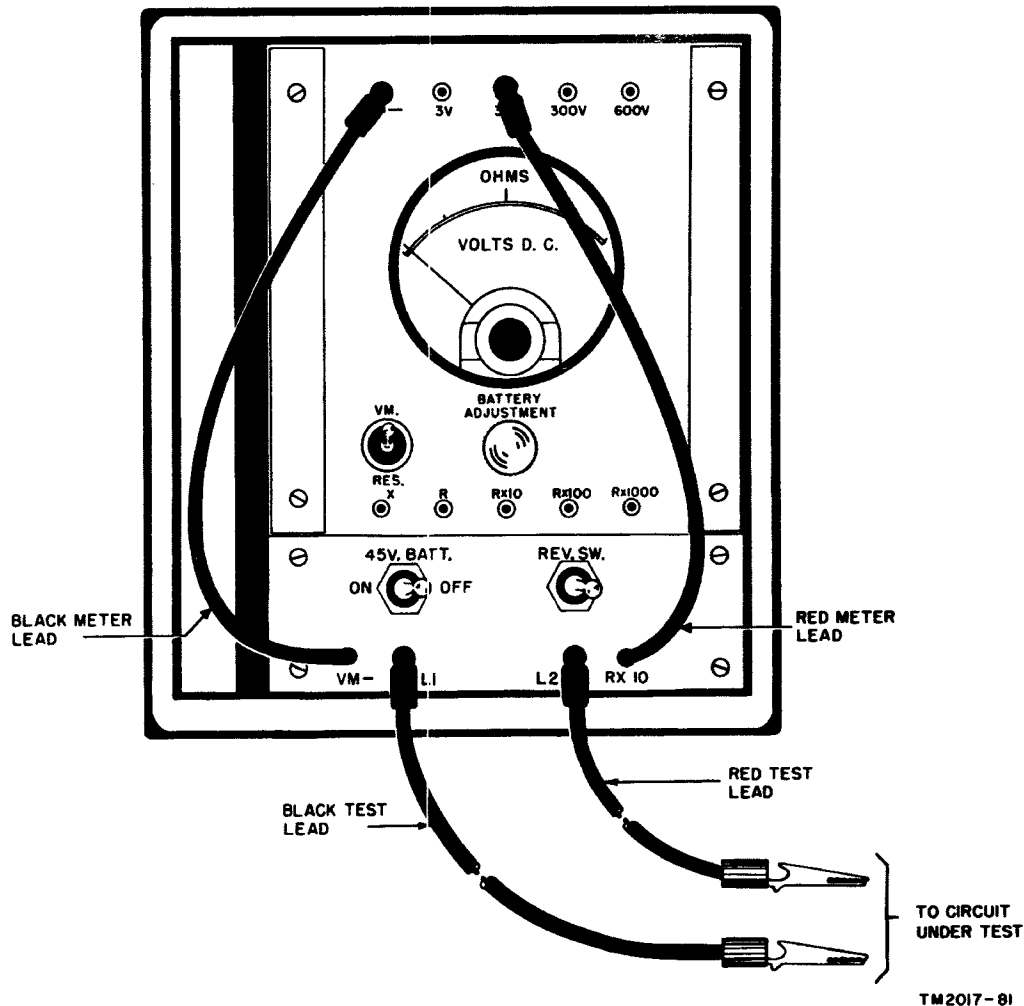

Figure 13. Test Set TS-26(\*)/TSM, arranged for measurements between 0 and 30 volts dc.
- (c) 30V jack for measurements between 0 and 30 volts (fig. 13).
- (2) If the 0- to 30-volt range is being used (fig. 13), divide the reading on the VOLTS D. C. scale by 10. In this case, the dc voltage is  $100 \div 10$  or 10 volts.